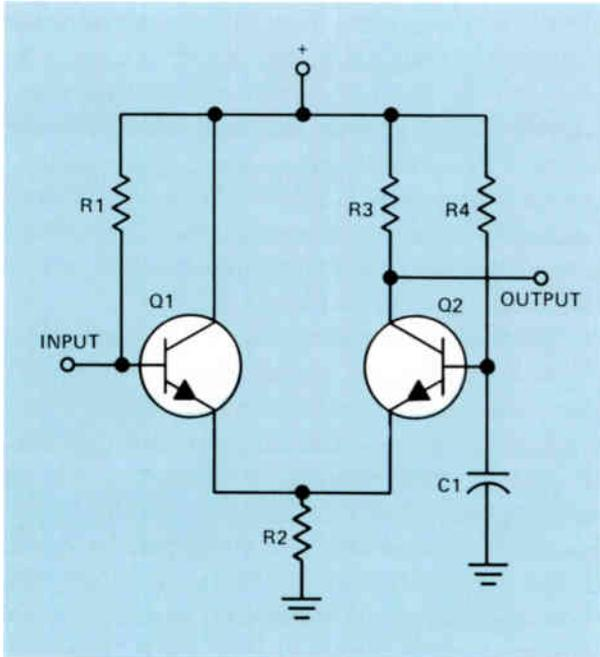
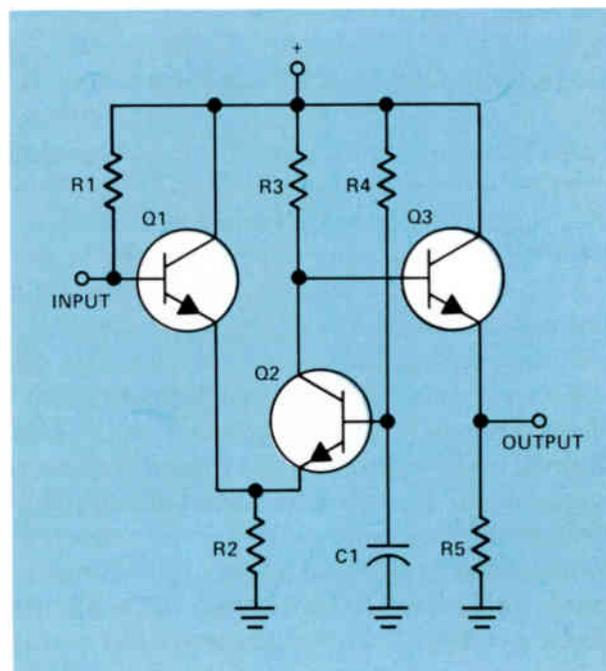

Figure 12. Modified differential amplifier circuit.
Figure 14. A differential amplifier and an emitter-follower stage.
When used in ICs, the basic differential amplifier circuit is usually modified as shown in Fig.12. Notice that the collector of Q1 is brought directly back to the positive power supply. The base of Q2 is operated at signal ground potential by bypassing it to ground through C1. The term *signal ground potential* simply means that insofar as any input signal is concerned, the base of Q2 is connected directly to ground. The reactance of C1 is so low that insofar as a signal is concerned, the base of Q2 is connected directly to ground.
second differential amplifier can be used. However, in both Figs.12 and 13, the dc output voltage at the collector of Q2 is considerably higher than the base voltage at the input of Q1. Therefore, rather than trying to direct-couple the second differential amplifier, an emitter-follower stage is used between the two to get the dc voltage down to a lower level. Then, a second differential amplifier can be driven quite conveniently.
The circuit used to lower the dc level is shown in Fig.14. Notice that in this circuit, Q1 and Q2 form a differential amplifier that is identical to the circuit shown in Fig.12. The output from Q2 is coupled directly to the base of Q3, and the output signal is taken from the emitter of Q3. By controlling the characteristics of Q3 and the size of R5, we can obtain the correct dc voltage at the emitter of Q3 to correctly bias the base of the first stage of a second differential amplifier.
Very high gain can be obtained by using two, three, or more cascaded stages, as shown in Fig.14. If three differential amplifiers with an emitter-follower output are used in an integrated circuit, and each differential amplifier and emitter follower provides a gain of 10, the total gain of the three cascaded stages will be  $10 \times 10 \times 10 = 1000$ . It is relatively easy to obtain a gain of 10 in each differential amplifier and emitter-follower stage of this type.
- 5 In the differential amplifier shown in Fig.12, will the output signal be in phase or 180° out of phase with the input signal?
- 7 What purpose does Q3 serve in the circuit shown in Fig.14?